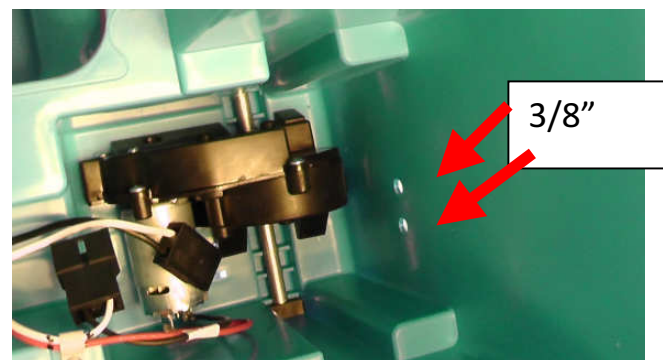

Fig. 3 Drill two 3/8" Holes
3) Working from inside the wiring compartment, drill two 3/8" holes in the back of the Wiring Compartment. (Above the motor.) **See Fig. 3** (These holes will pass wires from the Parent Switch and Charger Connector into the Wiring Compartment.)